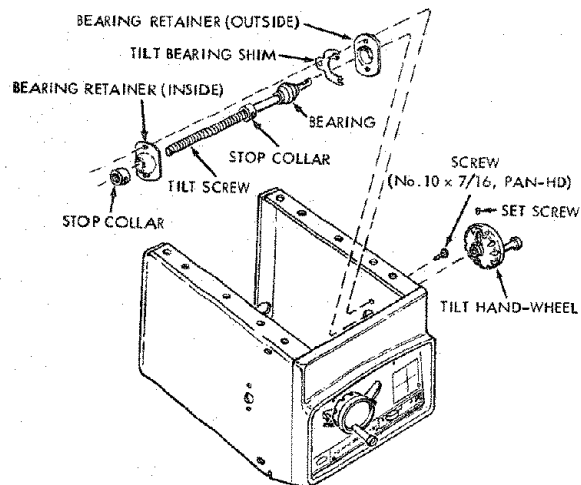

Figure 75
2. Installing Parts on Right-Hand Side. (See figure 75.)
- Insert the inner end of tilt screw through the hole in right-hand side of saw base (figure 75) then reach inside of base and slide the inner bearing retainer on the tilt screw, with flat face of retainer toward the tilt screw bearing. Start the stop collar on the threads and rotate it a few inches onto the tilt screw.